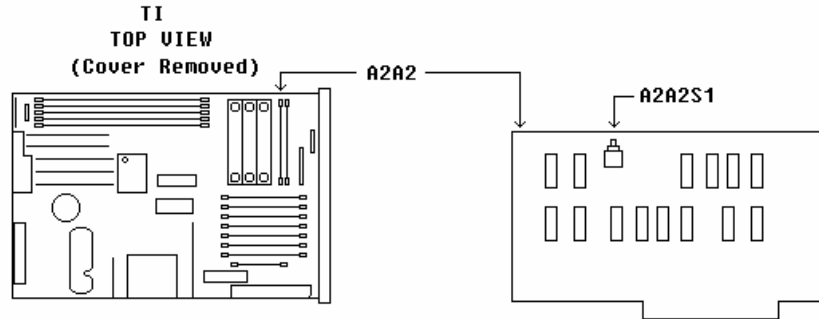

Figure 6. A2A2 board.
- (1) Remove TI protective covers.
- (2) Press TI **FREQUENCY, 2 ,GHz** keys and adjust the output level to -3 dB.
- (3) Set the measuring receiver to measure tuned power at 2 GHz in a **LOG** mode.
- (4) Press number **6** pushbutton on the TI.
- (5) Press service switch A2A2S1 (fig. 6).
(25) Press service switch A2A2S1 (fig. 6).
(26) Reduce TI RF output level to minimum.
(27) Replace TI top cover.